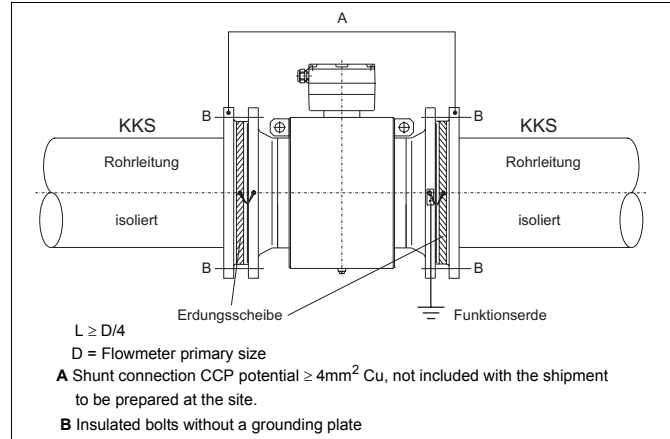
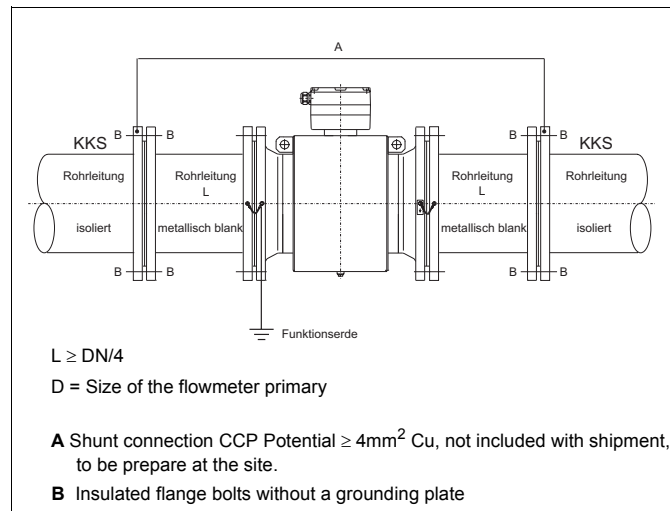

Fig. 34 Flowmeter Primary with Grounding Plates and Ground
Fig. 35 Flowmeter Primary with Ground
- For pipelines with interior insulating liners and without stray currents, the EMF should be installed with grounding plates up- and downstream of the flowmeter which are insulated from the pipeline in order to provide a shunt path for the CCP potential. The grounding plates up- and downstream of the EMF are at the ground potential (Fig. 34/ Fig. 35).
- For pipelines with interior insulating liners in which stray currents are expected (e.g. long pipeline runs in close proximity to supply power equipment) a section of uninsulated pipe $1/4D$ long should be installed up- and downstream of the flowmeter primary in order to shunt the stray currents (Fig. 35).
Fig. 35 shows the preferred installation for systems with cathodic corrosion protection.